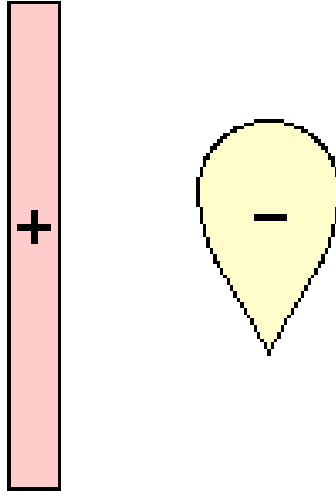

Fig. Q.3a
Q.3 a) Accurately sketch the electric field lines for the configuration shown in Fig. Q.3a.